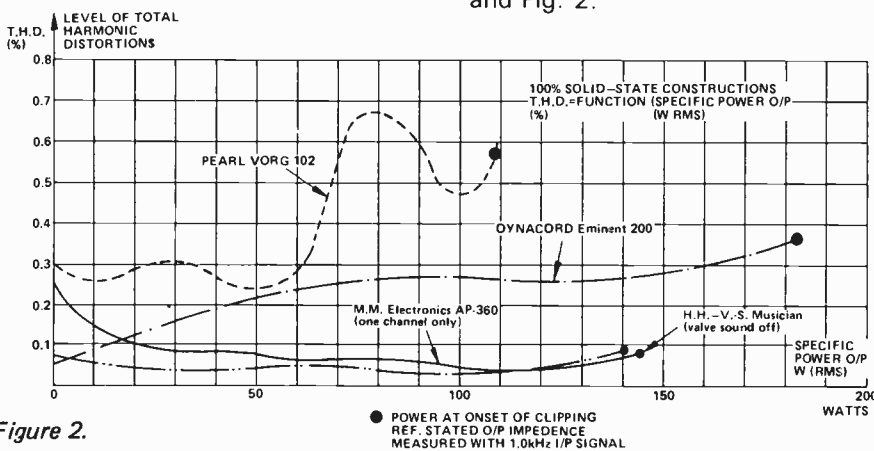

Figure 2.
1. H.H. V.S. Musician Reverb 100W Amplifier (GB)
4. "MM" Electronics — AP 360 Dual Power Slave (GB)
- and the results of experiments on this group are presented in Table 2 and Fig. 2.